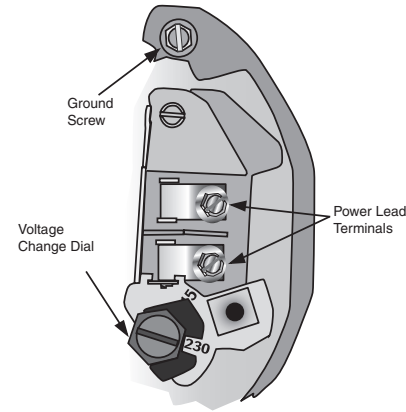

FIGURE 8 - VOLTAGE SET TO 230 VOLT CURRENT. ROTARY SELECTOR
- ♦ Refer to Figure 8 for wiring configuration.
- ♦ Connect current-carrying conductors to terminals L1 and L2. When replacing the motor, check wiring diagram on the motor nameplate. For 3-phase motors or motor's whose wiring diagram does not match Figure 8, follow the diagram on the motor.